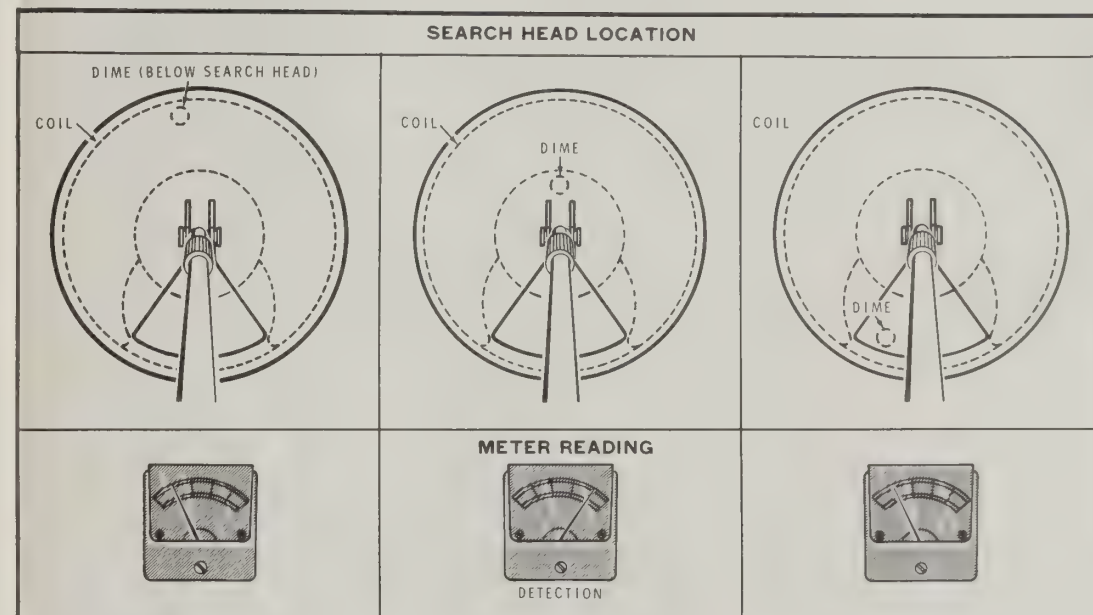

Figure 4
5. Hold the search coil approximately 2" above the nonmetallic surface and gradually pass it over the dime. Figure 4 (fold-out from Page 29) illustrates the meter indication as a small coin is detected. The audio tone will also increase. Headphones (such as 2000  $\Omega$  Superex Model GD-396) may be used to provide a more sensitive means of detecting this increase. The speaker is automatically disconnected when headphones are used.